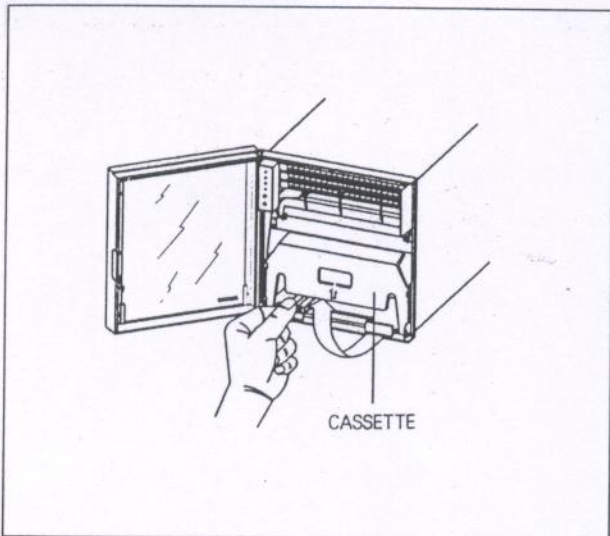

Fig 5.1
- 2) Push and pull forward the output lever at the left bottom part of cassette referring to fig 5.1.